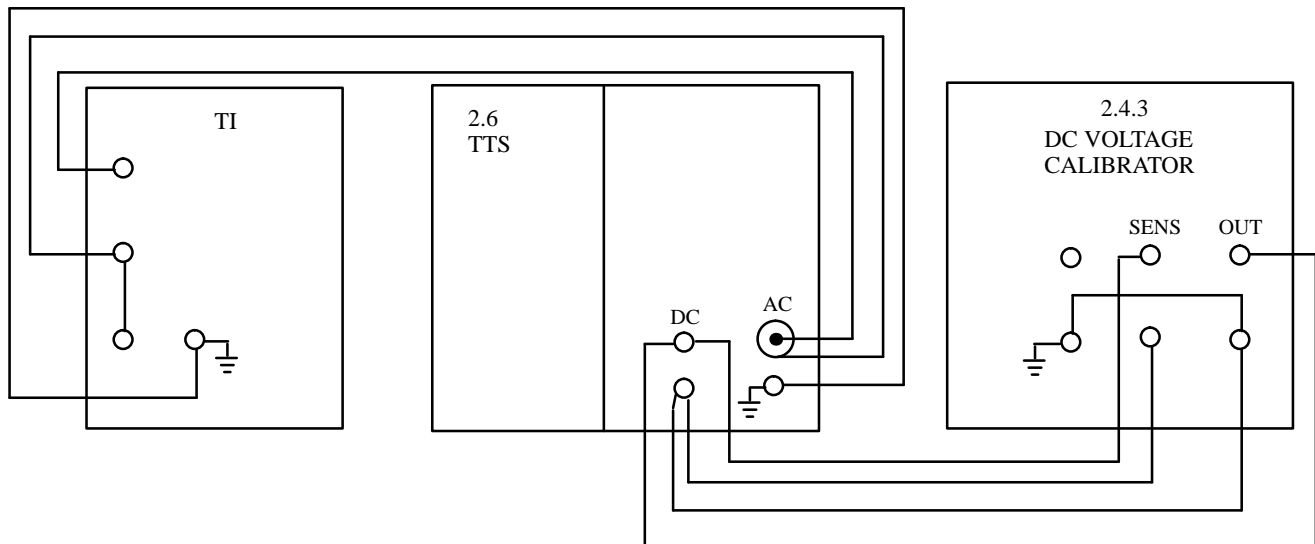

Figure 5. Frequency Response Test Configuration
4.5.1 Connect equipment as shown in Figure 5.